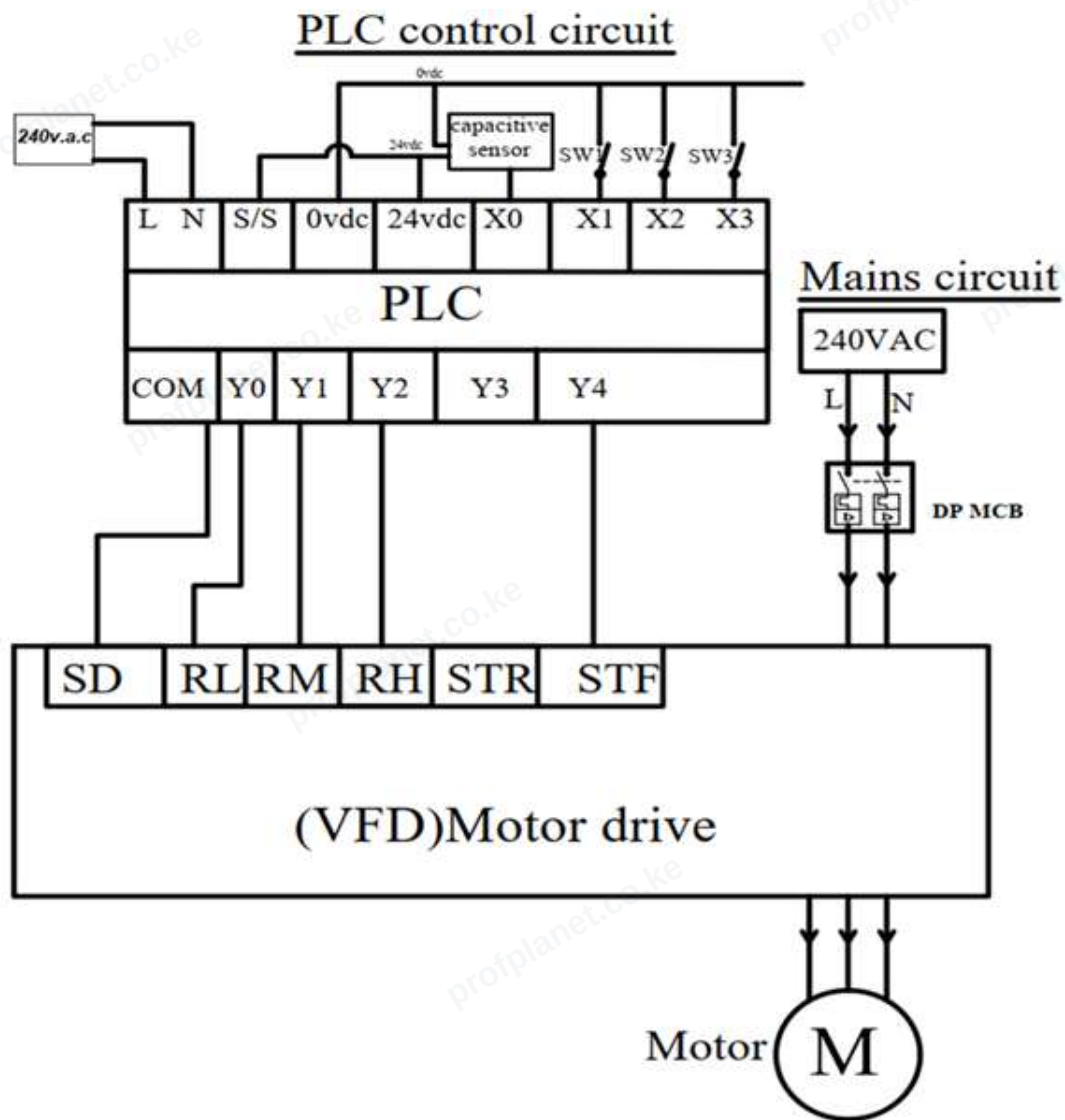

Figure 1
1. Connect the wiring of the main circuit and control circuit as shown in figure 1.